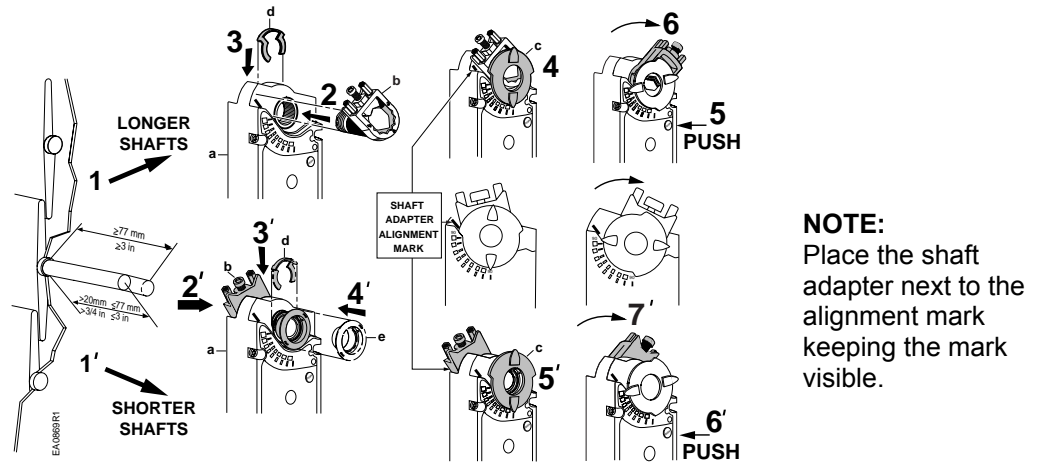
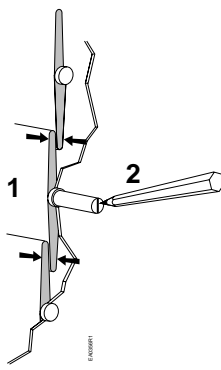

Figure 5. Shaft Adapter Placement for Counterclockwise Rotation on Short and Long Shafts.
Figure 6. Mount the Actuator to the Damper Shaft.
3. **For all models:** See Figure 3 and Figure 4 for clockwise-to-open (CW) installation. See Figure 5 and Figure 6 for counterclockwise-to-open (CCW) installation.